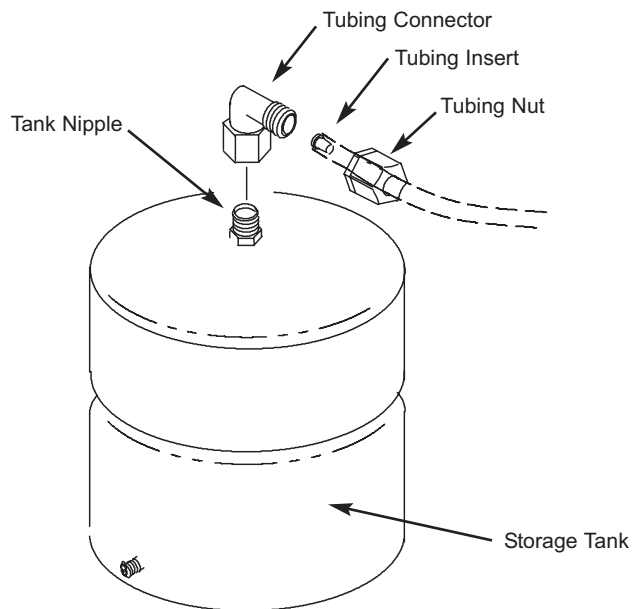

FIG. 12
1. Apply of thread sealing tape (2 wraps clockwise) to the threads on the nipple at the top of the tank. See Fig 12.
2. Locate the tubing connector. See Fig. 12. Tighten the tubing connector onto the tank nipple 7-8 full turns, being careful not to cross thread or overtighten.